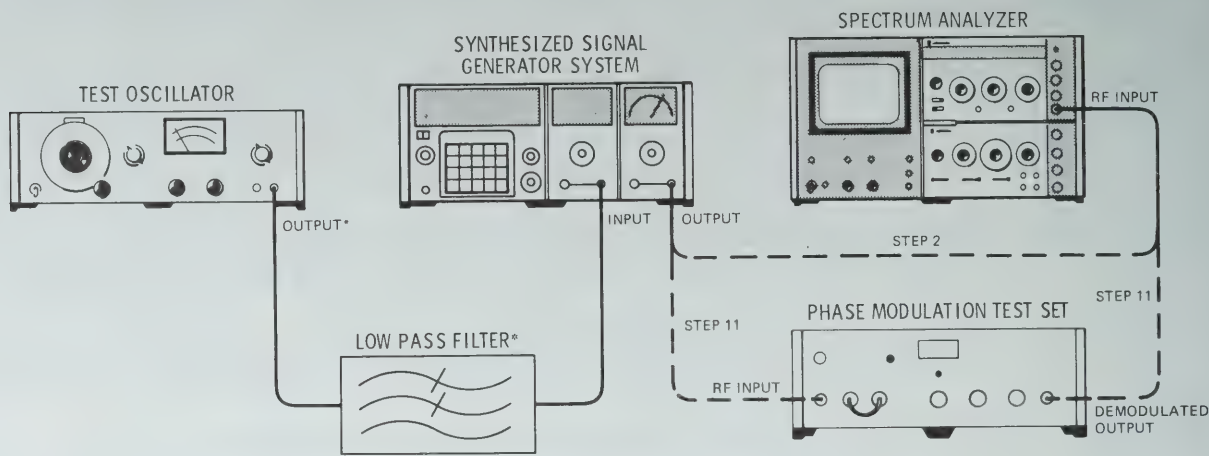

Figure 5-7B. Phase Modulation Level and Distortion Adjustment Test Setup (Alternate Procedure)
2. Connect the equipment as shown in Figure 5-7B. Connect the output of the System Under Test directly to the spectrum analyzer RF input. Be sure to use the correct impedance test oscillator output and the correct low pass filter*.
*In Figure 5-7B the test oscillator output and low pass filter impedances are 50 ohms when the modulation section being used is a Model 86634A and 600 ohms when used with an 86635A.
11. Connect the phase modulation test set between the signal generator output and the spectrum analyzer input as shown in Figure 5-7B.